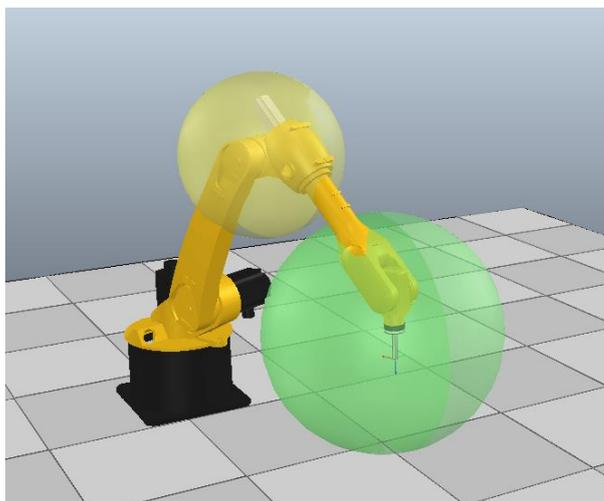

Figure 6-73 Robot's J5 "Axis Envelope" and "Tool Envelope" inside working zone
Step3. When both "Tool Envelope" and "Axis Envelope" are enabled, it can be seen from Figure 6-73 that the robot's J5 "Axis Envelope" and "Tool Envelope" are all in the working zone "Sphere" status.